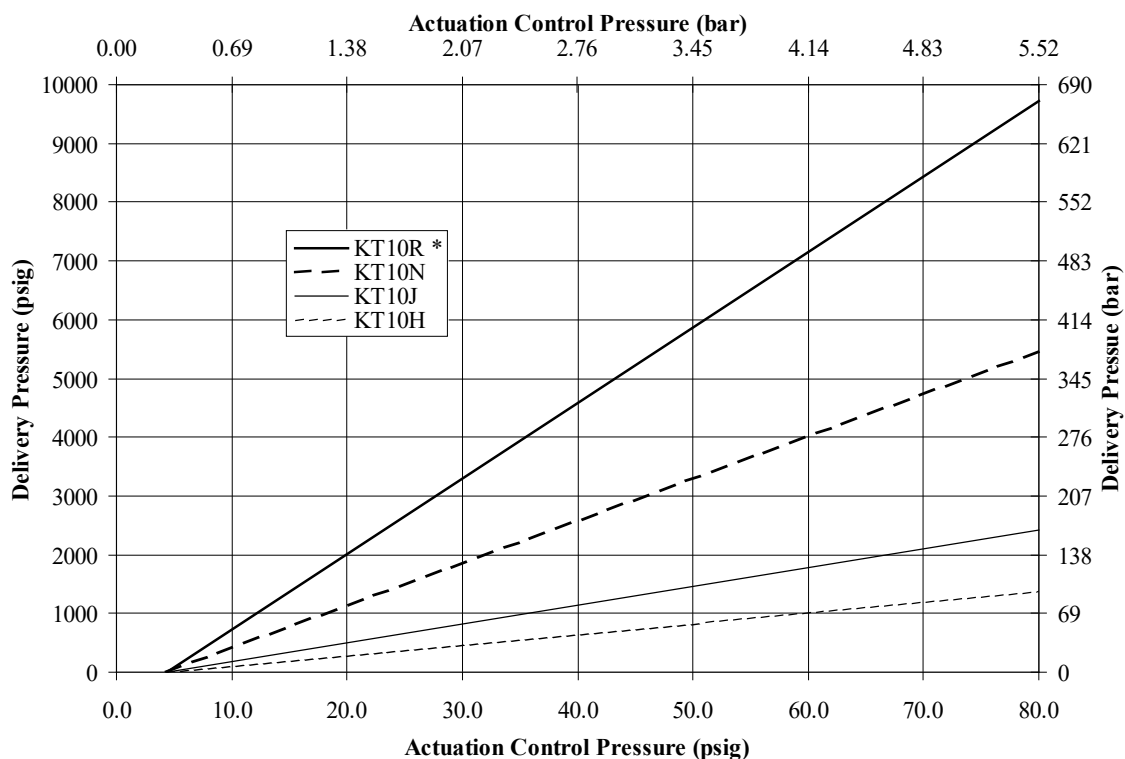
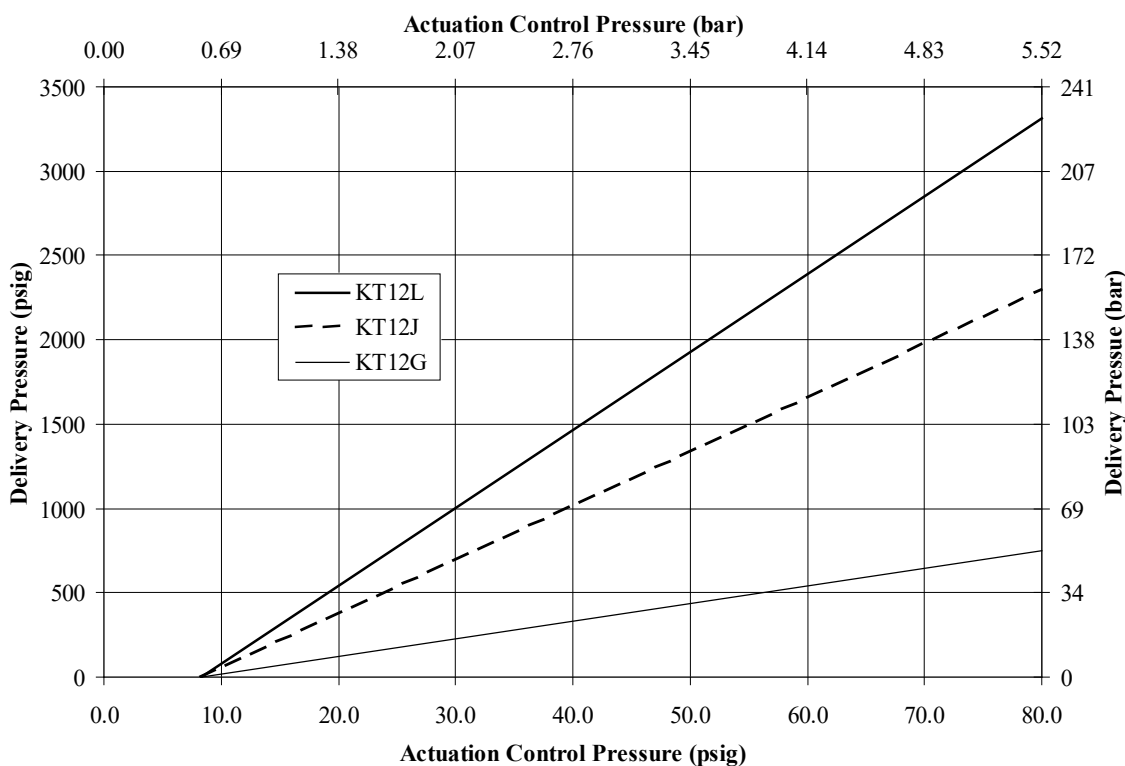

Figure 5. Pneumatically actuated KT10 delivery pressure vs. actuation control pressure.
Figure 6. Pneumatically actuated KT12 delivery pressure vs. actuation control pressure.
- c. Slowly increase the actuation control pressure to increase the delivery pressure to the desired pressure. See **Figure 5** and **Figure 6** for delivery pressure versus actuation control pressure charts for the pneumatically actuated KT10 and KT12 models.